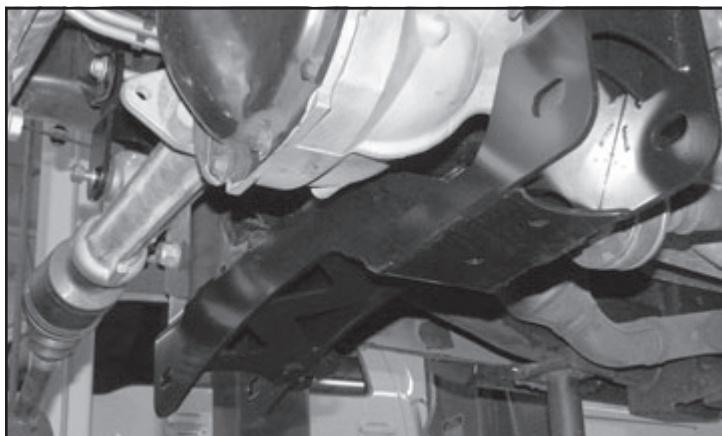

FIGURE 20 - STEP 22
22. Locate the Fabtech rear crossmember (FT30512BK). Install the rear crossmember in the factory rear lower control arm pockets. Mount the crossmember using the factory control arm pivot hardware. Leave all hardware loose. All the tabs on the face of the crossmember should be pointed to the rear of the vehicle. **SEE FIGURE 20**